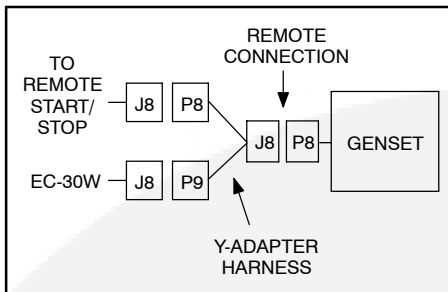
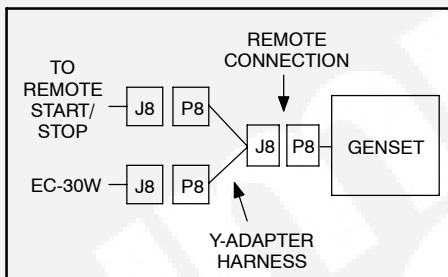

FIGURE 4-2. Y-ADAPTER HARNESS BLOCK DIAGRAM FOR KV GAS GENSETS
FIGURE 4-3. Y-ADAPTER HARNESS BLOCK DIAGRAM FOR OTHER GAS GENSETS
- B. Install the Y-adapt-er harness, as shown in Figure 4-2 or Figure 4-3.
8. For **all gasoline gensets except KV**, install the control harness BATT+ terminal ring (purple wire) on the B+ terminal on the start solenoid relay (see Figure 4-2).